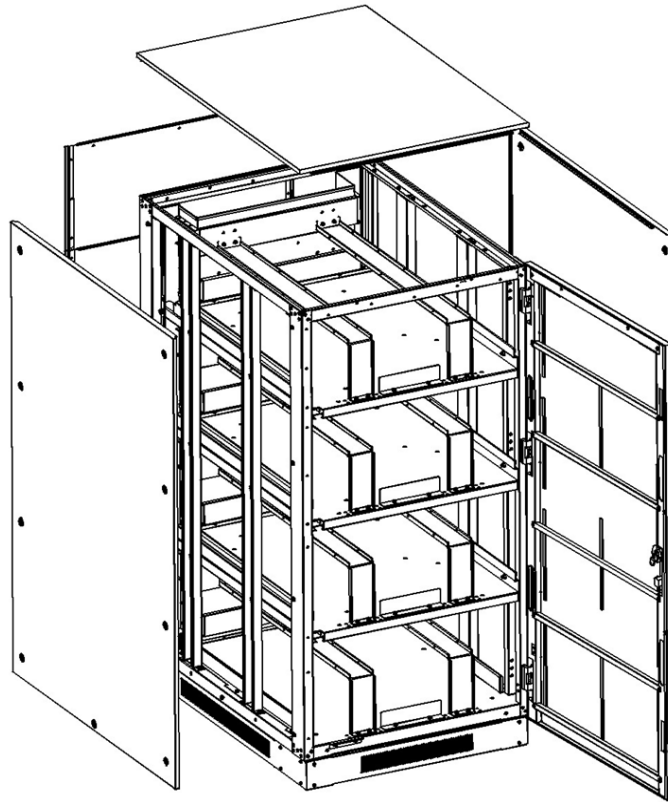

Figure 5-29
2. Remove the top, right side and left side plates (Figure 5-29).